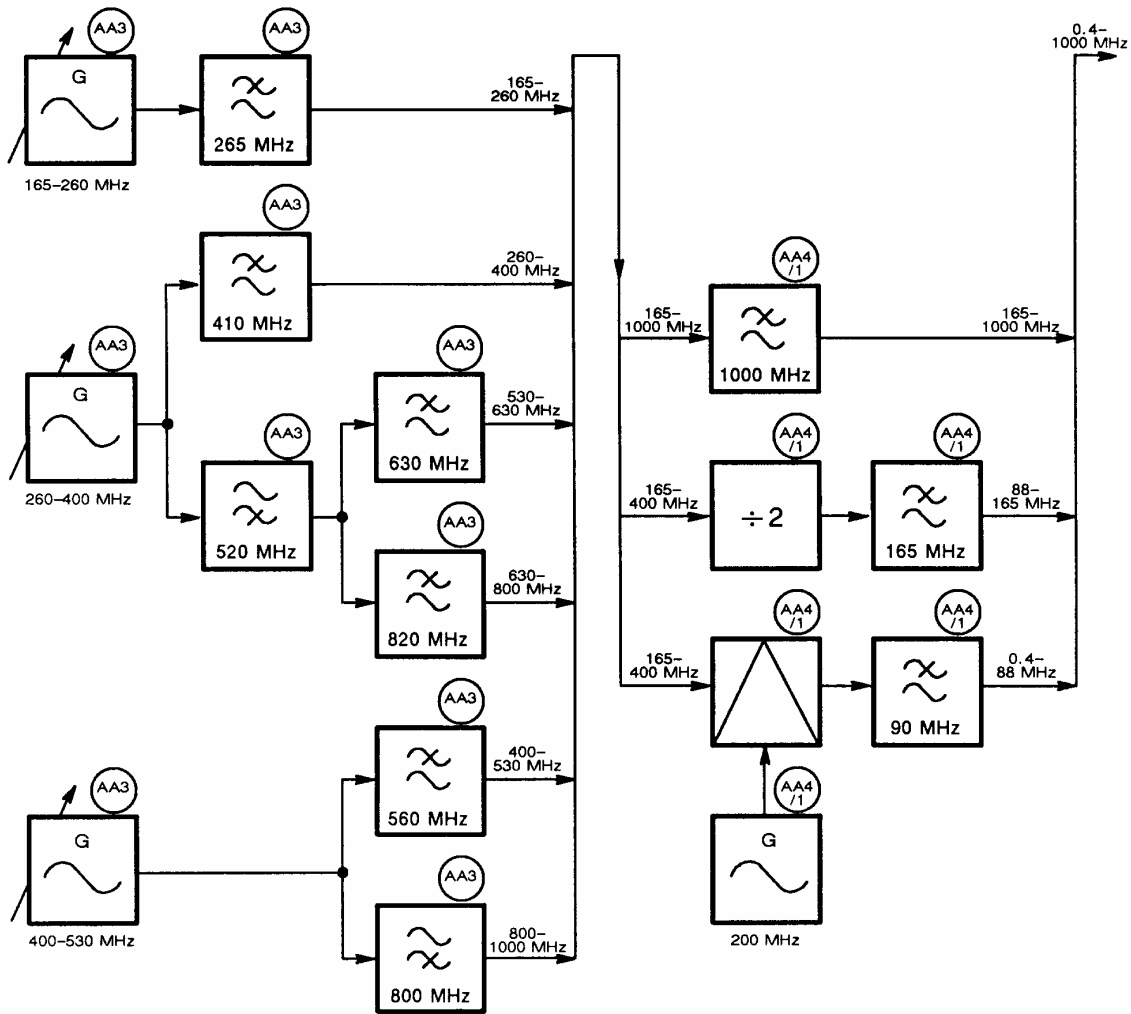

Fig. 4-5 RF synthesizer frequency generation summary
45. Fig. 4-5 and Table 4-6 summarize the methods of frequency generation using boards AA3 and AA4/1 to provide the ten frequency ranges.